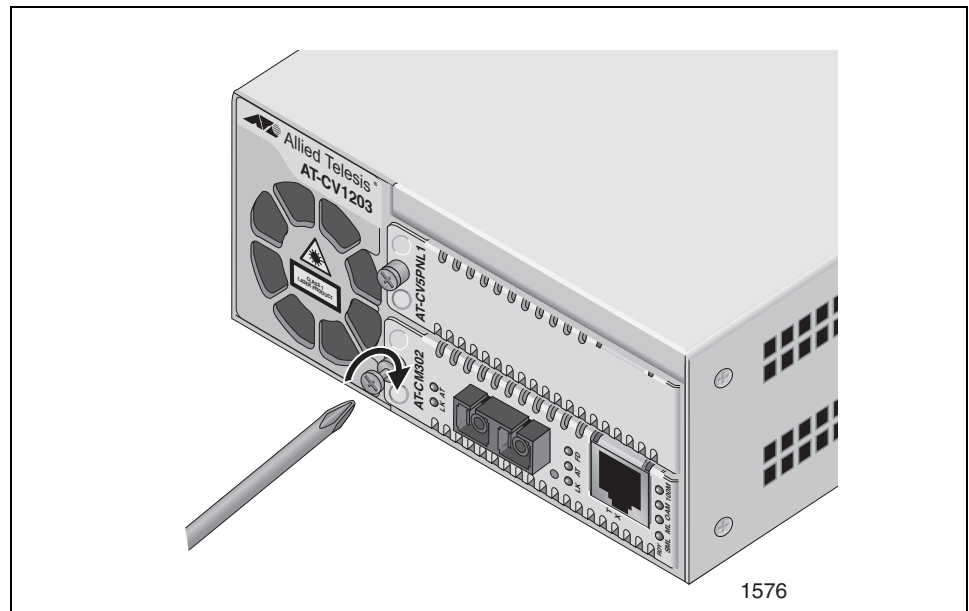

Figure 9. Tightening the Captive Screw
6. Use a Phillips screwdriver to tighten the captive screw on the line card, as shown in Figure 9.